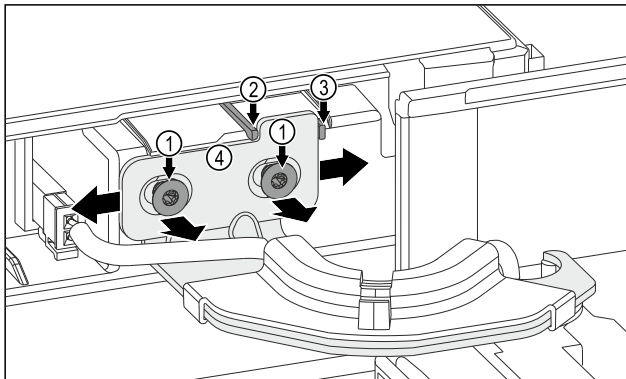

Fig. 11
- ▶ Loosen both screws Fig. 11 (1).
- ▶ Slide the door to the right: Remove the safety knob Fig. 11 (3).
- ▶ Slide the door to the left: Remove the safety knob Fig. 11 (2).
- ▶ The door's end position is reached: Tighten both screws Fig. 11 (1).